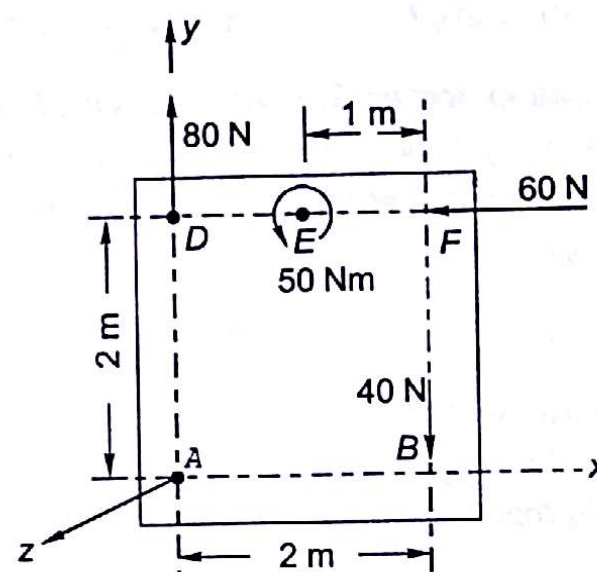

Fig. 2.24
- 2.4 Determine the resultant of 3 forces acting at B, F and D and a couple at E as shown in Fig. 2.24. Determine the resultant and the point of application of resultant.